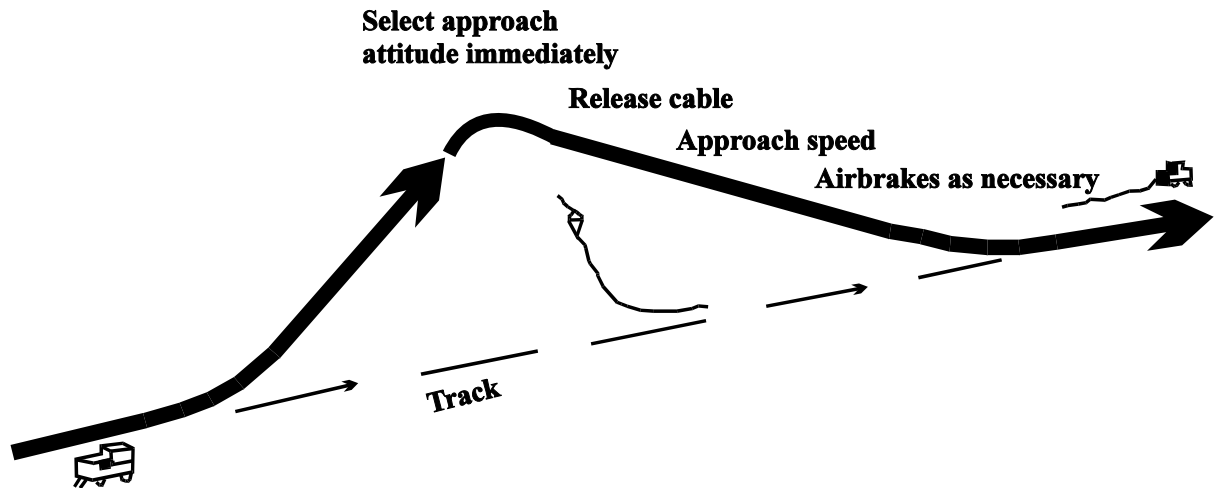

Fig 16. Land ahead launch failure.
3. **Low launch failure.** Except in the case of a very low launch failure, which will be discussed later, we do the following: (See Fig 16)